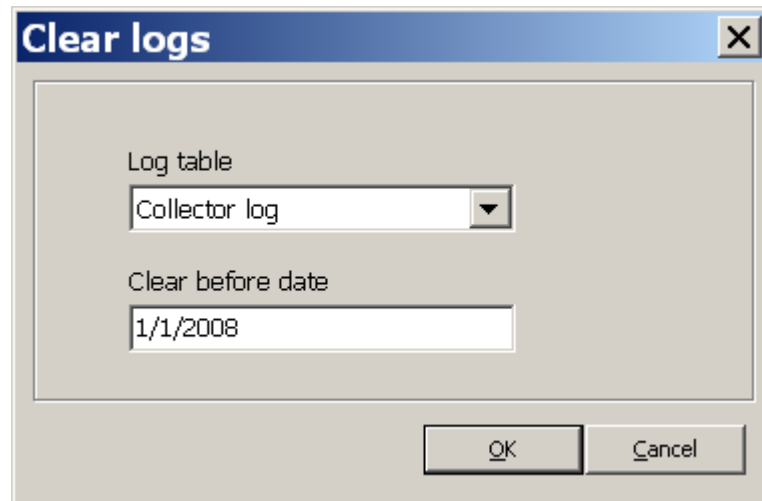

Figure 8-4 The Clear logs screen
3. Click **Clear logs**. You will see a dialog screen (Figure 8-4).